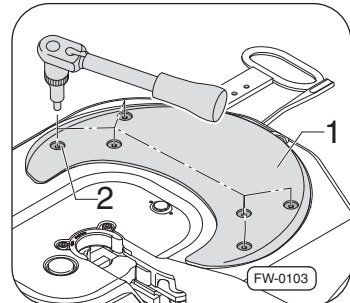

Fig. 37 · Remove the lube plate screws
1. Unscrew and dispose of the screws (12x) Fig. 37, –pos. 2–.
2. Remove the lube plates –pos. 1–.